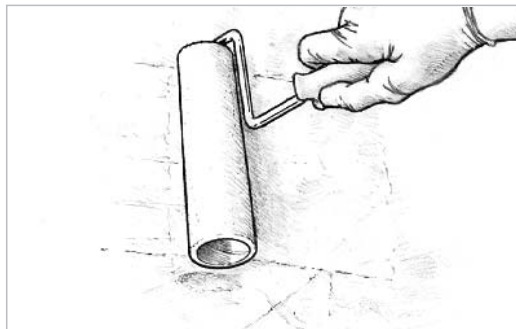

Figure 9-23 Apply the epoxy in thin even coats using a thin foam roller.
4. Roll lightly and randomly over an area approximately 2' × 2' to transfer the epoxy evenly over the area (Figure 9-23).